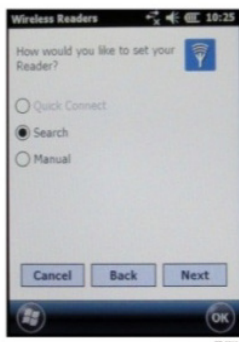

Figure 14. Search for RFID device
8. Leave the reader setting on **Search**, which is the default setting. Tap **Next** (Figure 14).